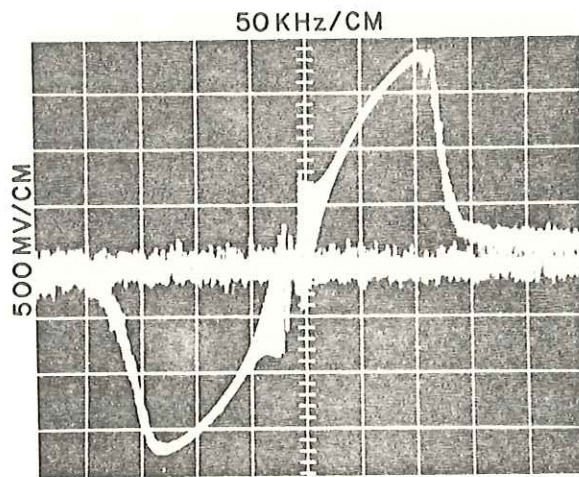

Figure 4-13. Typical Response, 21.4 MHz
- (2) Place the IF Bandwidth switch in the .1 MHz position and the reception mode switch on FM.
- (3) Set the sweep generator frequency to 21.4 MHz. Turn on the internal 21.4 MHz marker or apply an external 21.4 MHz marker.
- (4) Adjust the oscilloscope and sweep generator controls until an "S" curve response is obtained.
- (5) Adjust C8 to center the S-curve at 21.4 MHz.
- (6) Adjust C4 for a symmetrical response. A typical response is shown in Figure 4-13.